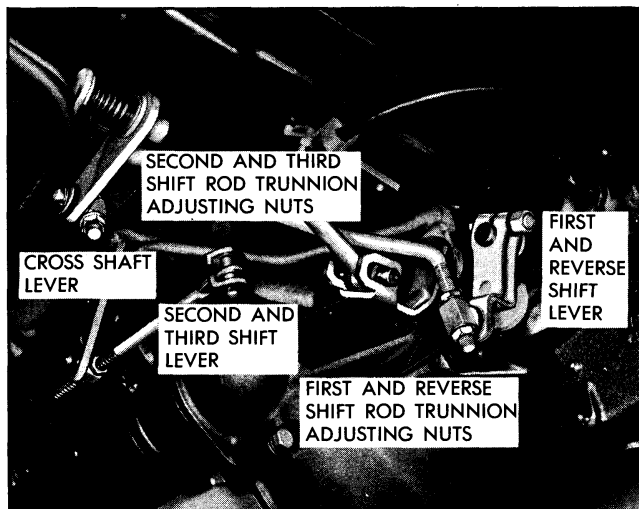

Fig. 7-9 Shift Rod Trunnions and Adjusting Nuts
2. Back off trunnion adjusting nuts several turns (Fig. 7-9).
4. With transmission levers in full neutral detent adjust second and third shifter rod trunnion at cross shaft lever and first and reverse trunnion at transmission lever (Fig. 7-9). Tighten trunnion nuts to 60-120 lb. in. torque.